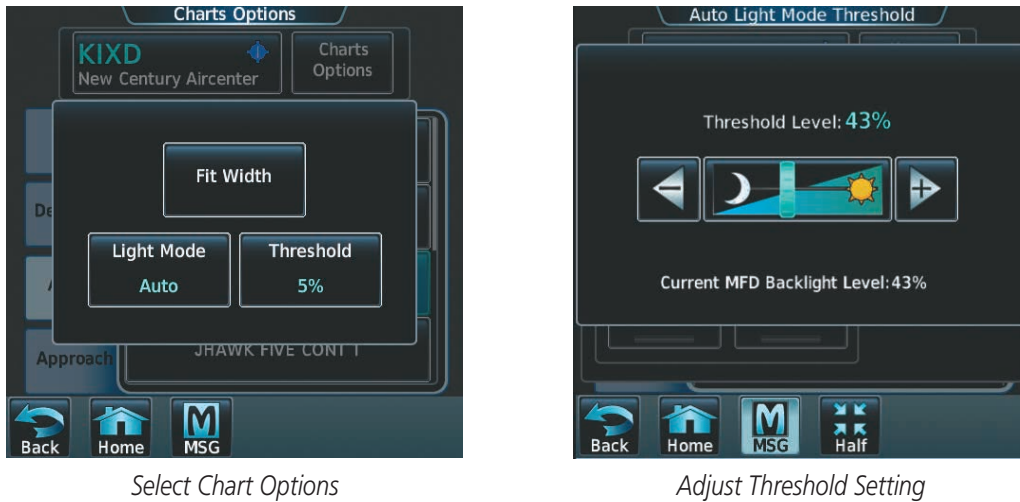

Figure 8-28 Setting Day/Night Switching Threshold
- 4) Touch the **Threshold** button (Figure 8-28). The Auto Light Mode Threshold window is displayed.